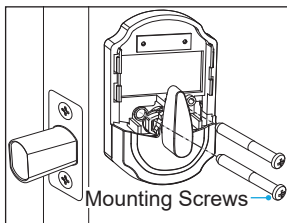

Fig. 11
**Step 5.** Align the mounting holes of inside section with the two round holes near the square hole in latch, then use the two mounting screws to install the inside section on the door (Fig. 11)